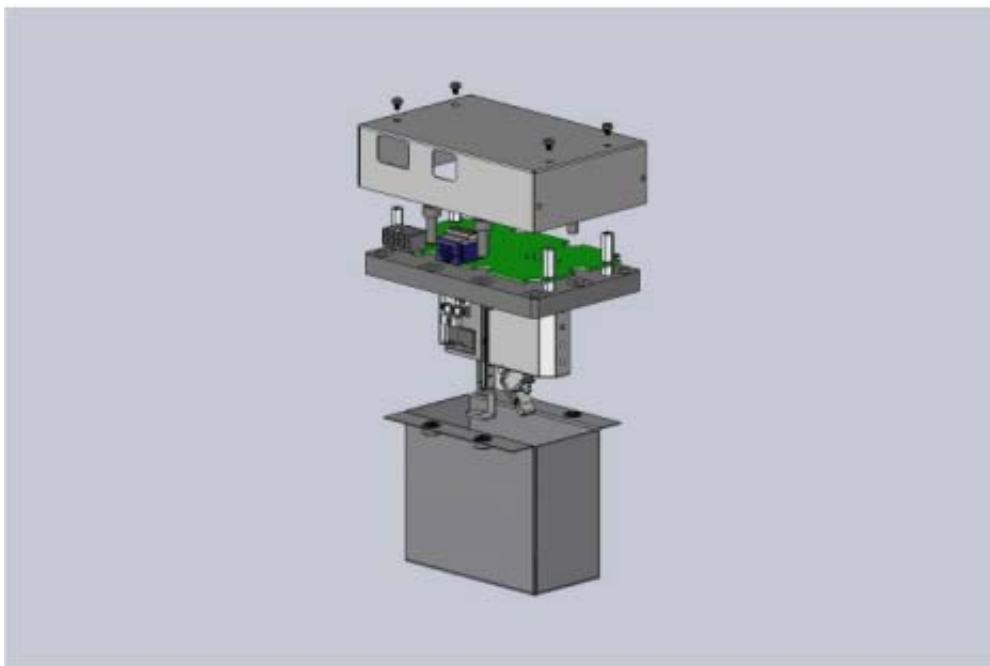

Figure B-55 Header Assembly Screws
13. Remove the top cover from the header assembly by removing the four screws using an M3 Philips screw driver (Figure B-55).